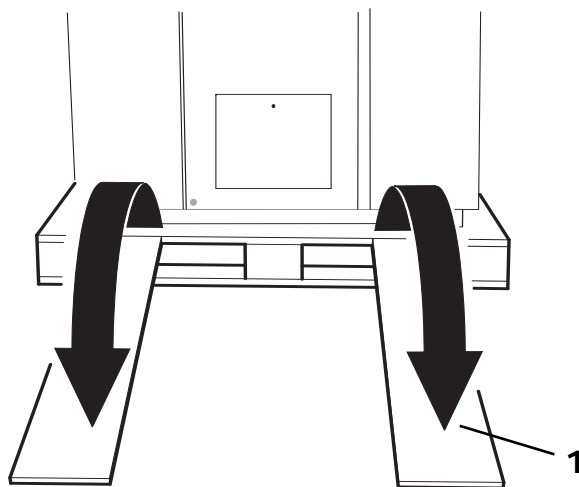

Figure 4-2
1. Lower both platforms (1) hinged to the pallet, making sure they rest evenly on the floor and that they are well aligned with the pallet surface (Figure 4-2).